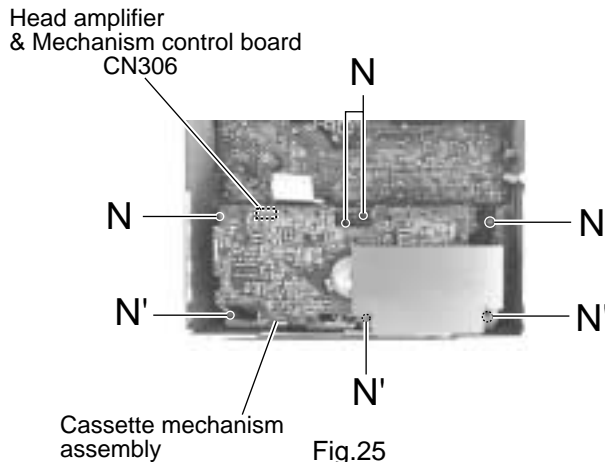

Fig.25
■ Removing the cassette mechanism assembly (See Fig.25)